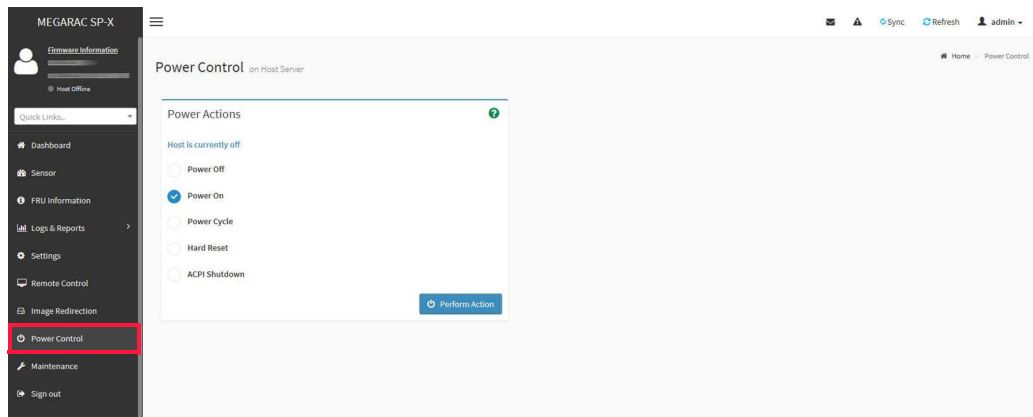

Figure 5.6 Power Control menu
5. Click **Power Control** on the WebUI menu (shown in Figure 5.6) to control server power by selecting the appropriate option.